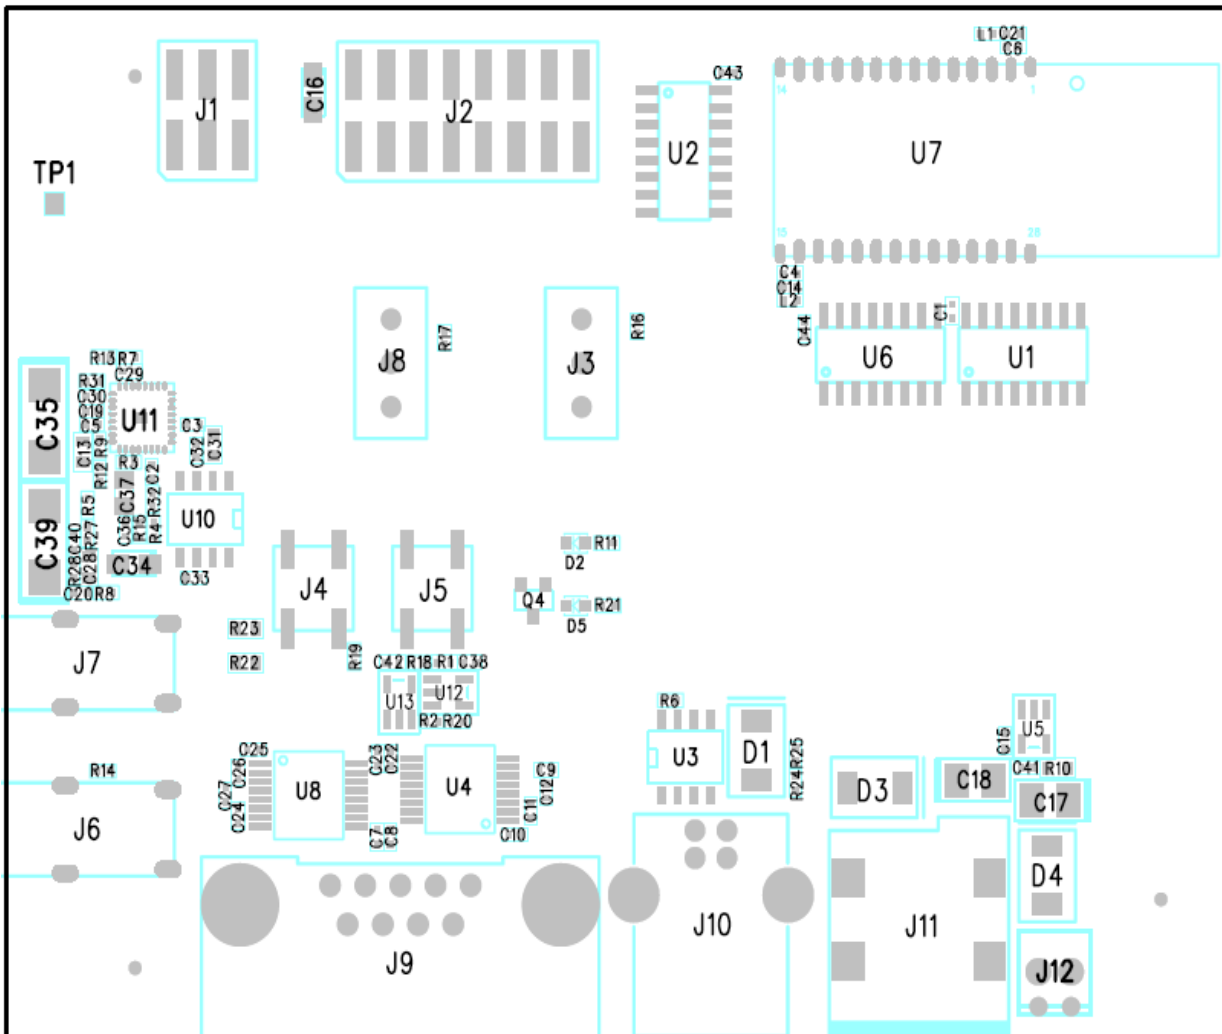

Figure 2: WT11 Evaluation Kit assembly
**Note:** 'Top' and 'bottom' positions refer to viewing WT11 Evaluation Kit from top side as seen in Figure 2.